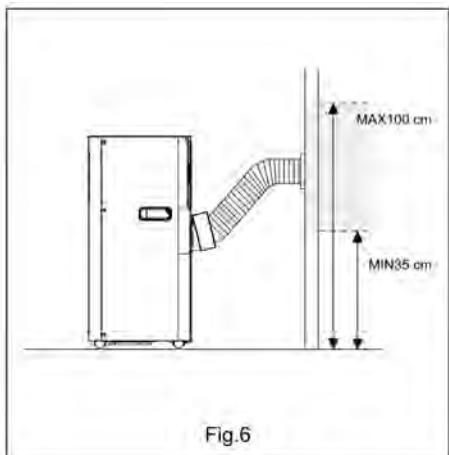

Fig.6
- Insert another end of the hose assembly to the fixture previously fit on the wall a shown in (Fig. 6)